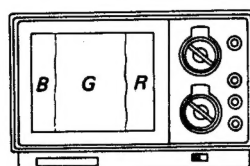
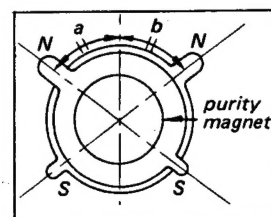

Fig. 3-5. Green band centering
Fig. 3-6. Purity magnet position
- (5) Adjust the purity magnet tabs to center the green band on the screen as shown in Fig. 3-5. Note that the purity magnet tabs should be placed equal amounts in opposite directions as shown in Fig. 3-6 ($a = b$).